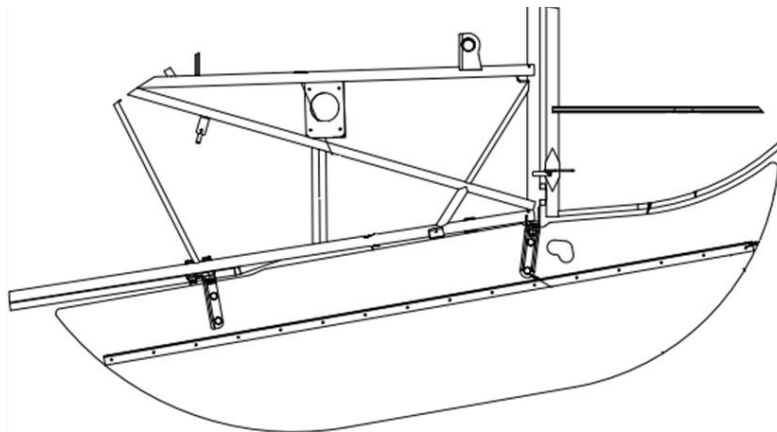

Figure 12
8. Remove ventral fin (Figure 12), clean joints as necessary.